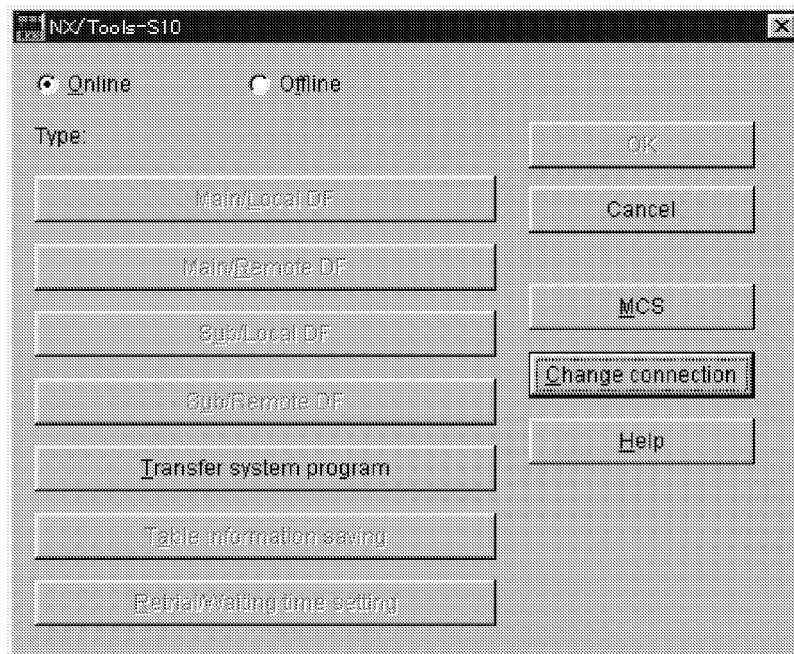
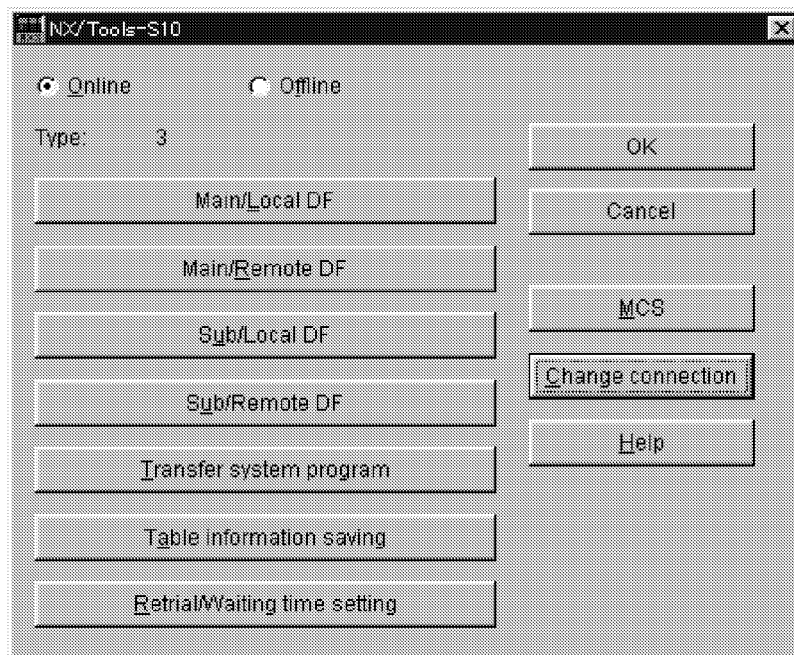

Figure 4-3 [NX/Tools-S10] Window (System Program Transfer Not Completed)
Figure 4-4 [NX/Tools-S10] Window (System Program Transfer Completed)
- (4) While the window shown in Figure 4-3 or 4-4 is open, NX/Tools-S10 is running. From now on, you can click the button for a desired command. However, if the system program is not transferred (Figure 4-3), transfer it by clicking the **Transfer system program** button.
- (9) You are now returned to the [NX/Tools-S10] window (Figure 4-3).
The NX-Tools-S10 system is Terminated by clicking the  or  button on the [NX-Tools-S10] window shown in Figure 4-3 or Figure 4-4.